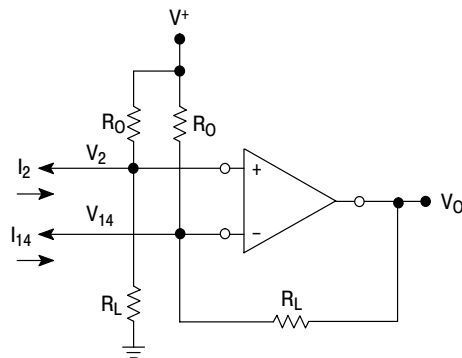

Figure 22. Level Shift Circuit
*Step 5.* For dc applications, such as the multiply, divide and square-root functions, it is usually desirable to convert the differential output to a single-ended output voltage referenced to ground. The circuit shown in Figure 22 performs this function. It can be shown that the output voltage of this circuit is given by: